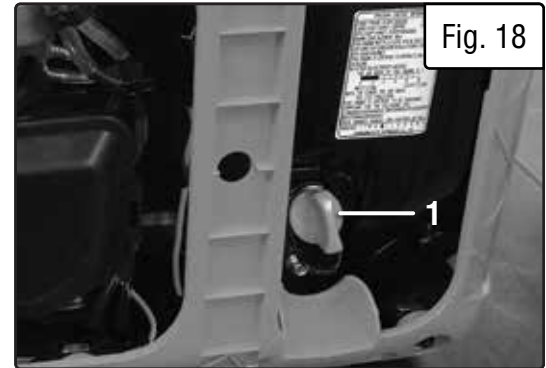

Fig. 18
4. Remove the dipstick (Fig. 18 - 1) and tilt the generator towards you and allow the oil to drain from the engine completely.